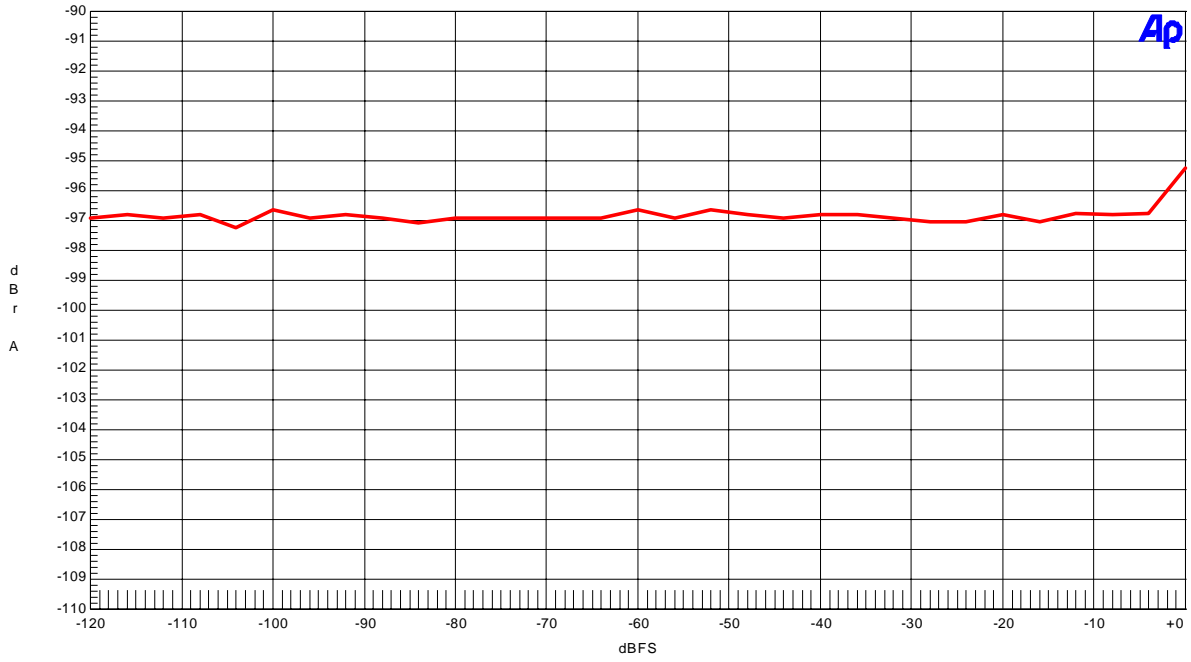

Figure 2-2-1. THD+N vs. Input level
- Figure 2-2-1. THD+N vs. Input level